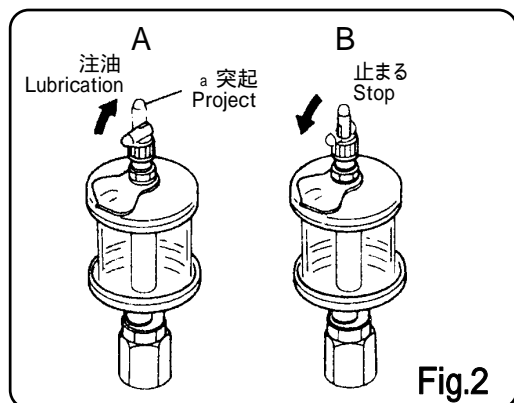

Fig.2
- 1) The machine is provided with a sight feed oiler (Figure 2). After installing the machine, fill the oiler with machine oil or white spindle oil (#60).
- 2) Before starting, feed oil to the machine by pushing up the knob of the oiler A, (Figure 2). With this, the machine is automatically lubricated.
- 2) Oil feed is stopped as you turn the knob down as shown in Figure 2. Be sure to turn it down after oiling.
- 1) DS-2II 型マシンにはオイラー < Fig.2 > がついています。マシンの設置が終わりましたらマシンオイルまたは白スピンドル油(#60)をオイラーに給油してください。